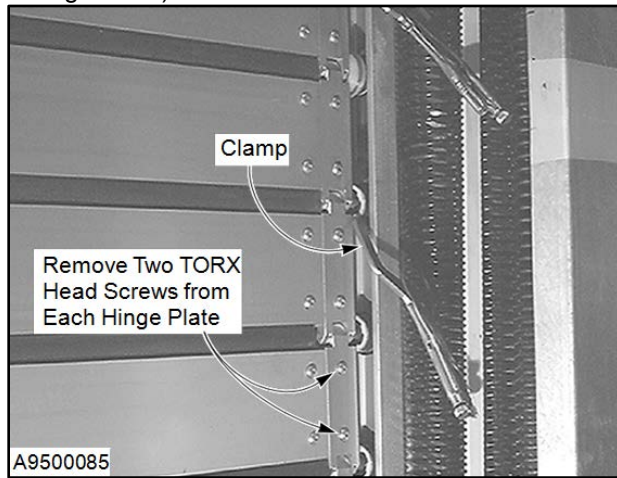

Figure 64
4. Position clamps along both edges of the door above and below the panel to be removed to prevent unexpected door movement. (See Figure 64.)